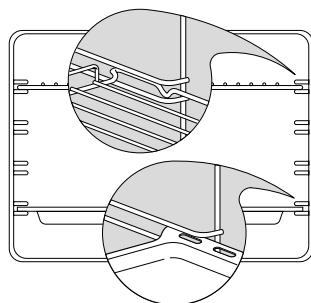

Fig. 15 Correct position of shelves and pan
- Put in the shelves and trays. If you are not using the sliding shelf supports, then slide in the shelves and grill pan as shown in Fig. 15. Fit them between the metal runners, with the safety stop notch down and at the back. (If the shelf supports and catalytic panels are not already fitted, see 'Care and cleaning' for how to do this).
- Fig. 15 Correct position*